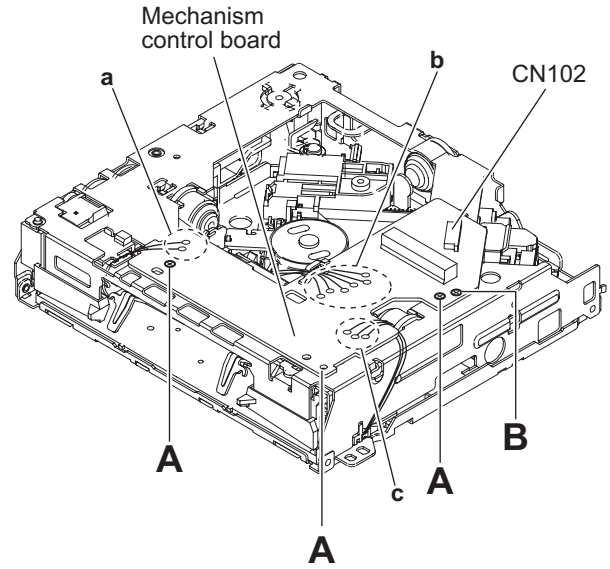

Fig.1
#### 3.2.1 Removing the MECHANISM CONTROL BOARD assembly (See Fig.1 and 2)
- From the bottom side of CD MECHANISM assembly, remove the solders from the soldered sections (a, b and c) on the MECHANISM CONTROL BOARD assembly. (See Fig.1.)
- Remove the three screws **A** and one screw **B** attaching the MECHANISM CONTROL BOARD assembly. (See Fig.1.)